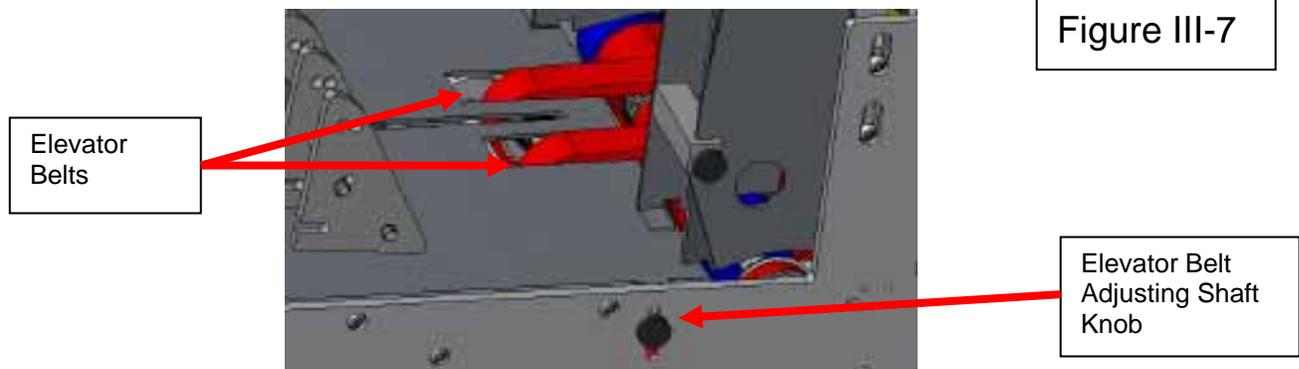

Figure III-6
7. Place approximately 3/4" thick stack of production pieces between side guides and against separator allowing pieces to shingle forward, see figure III-6.